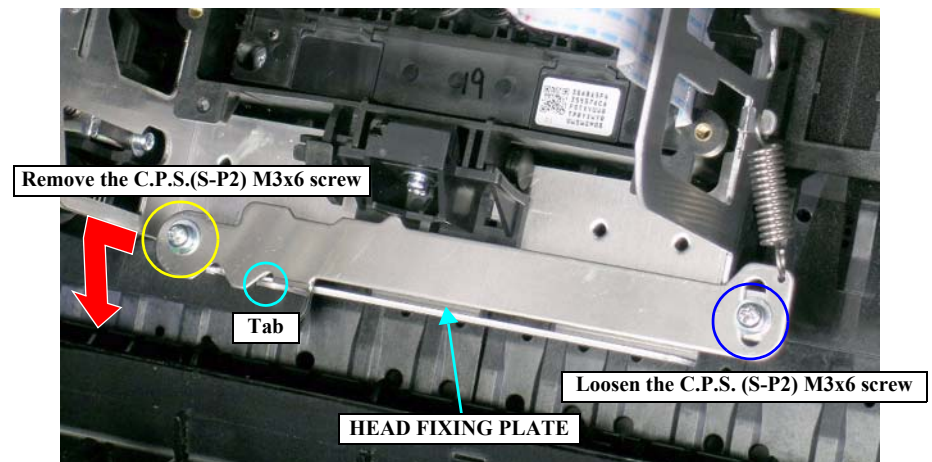

Figure 4-105. Releasing the HEAD FIXING PLATE
7. Loosen the right screw and remove the left screw that secure the HEAD FIXING PLATE. *See Figure 4-105.*
8. Release the HEAD FIXING PLATE from the tab and slide the right side of the Plate toward you. *See Figure 4-105.*